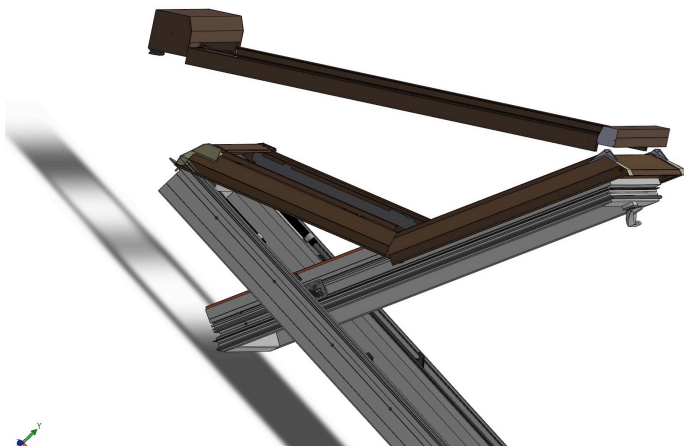

Fig.11
6) Insert the lower part of the roller shutter guides into the previously attached slides (Fig.11 and 12)